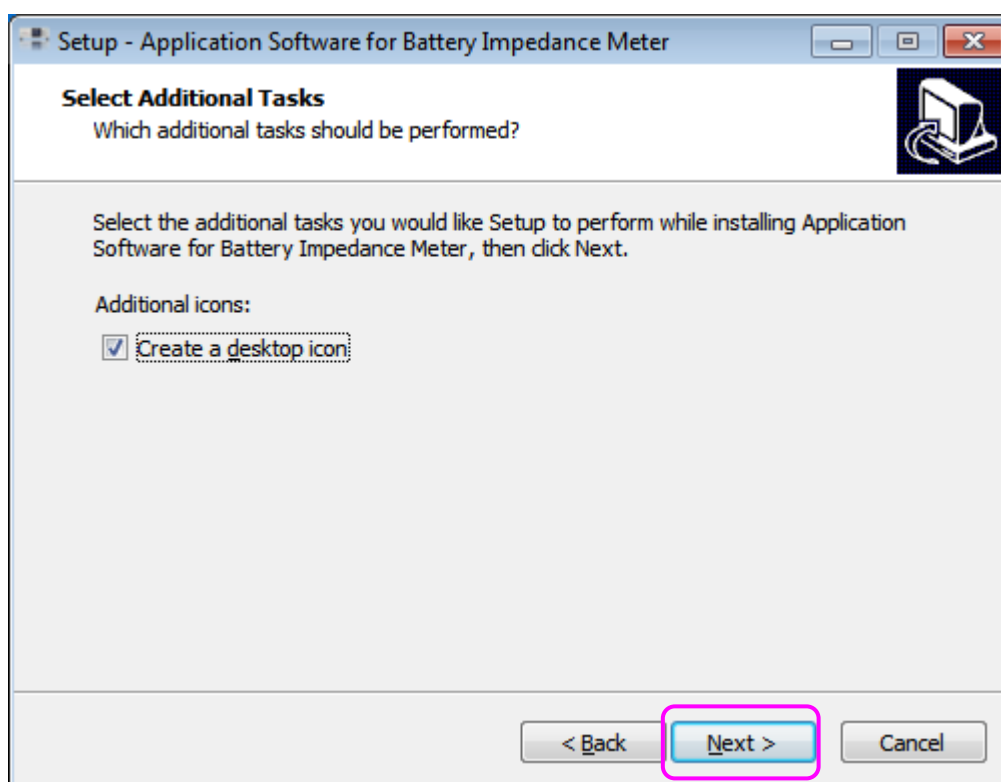

Fig 2-7
Step5 : Check [Create a desktop icon] or not, then click [Next]. (Fig 2-7)